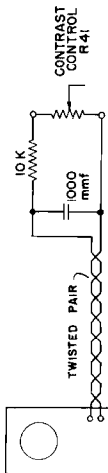

Figure 10
5. Connect a sweep generator to the converter and an oscilloscope in place of the meter. (See figure 10.) Check the peaks of the response for symmetry.